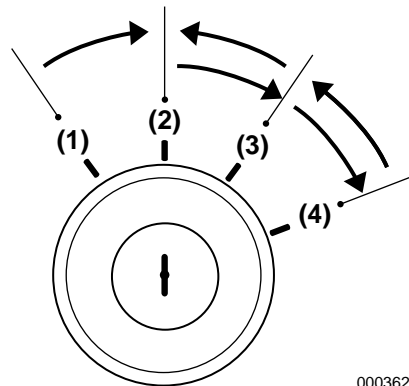

Figure 1
5. Turn key switch to ON (**Figure 1, (3)**). Ensure that the instrument panel indicators light and the alarm sounds. This indicates that indicators and alarm are working correctly.
6. Turn key switch to START (**Figure 1, (4)**). Release the key switch when the engine has started. NOTICE: *NEVER hold the key in the START position for longer than 15 seconds or the starter motor will overheat.*